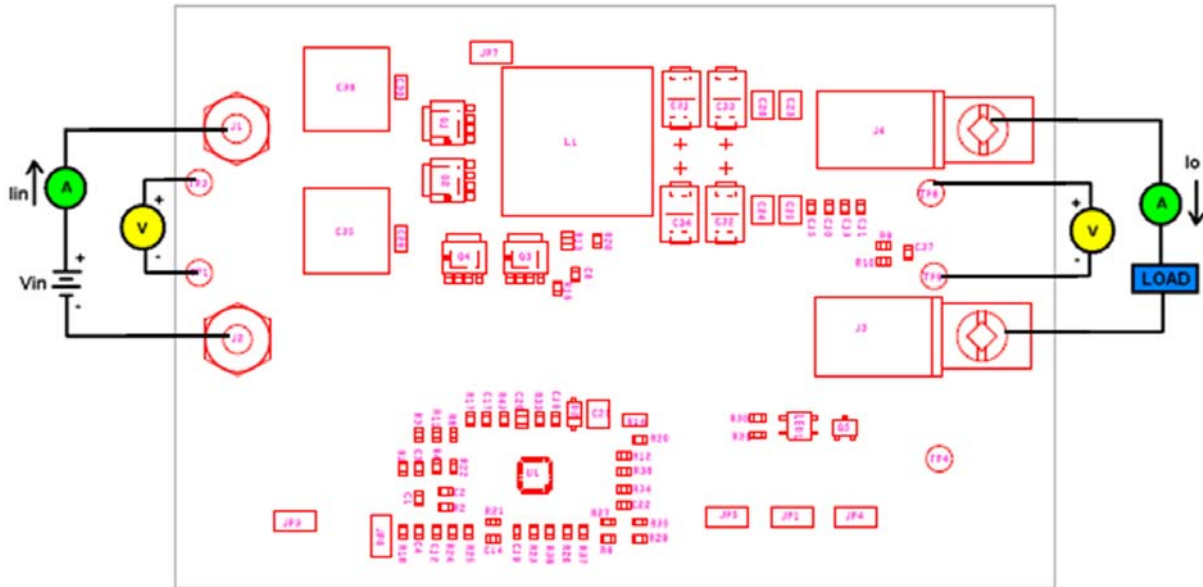

FIGURE 2. ISL8115EVAL2Z TEST SET-UP
1. Ensure that the Evaluation board is correctly connected to the power supply and the electronic load prior to applying any power. Please refer to Figure 2 for proper set-up.